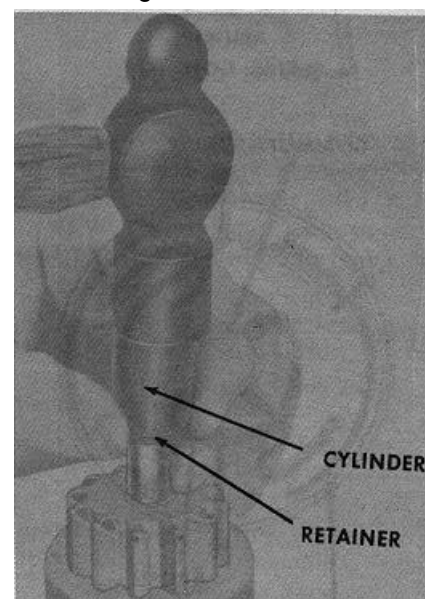

Figure 10-Rerhoving retainer from snap ring.
6. Slide a standard half-inch pipe coupling or other metal cylinder of suitable size (an old pinion of suitable size can be used if available) onto shaft so end of coupling or cylinder butts against edge of retainer. Tap end of coupling with hammer, driving retainer towards armature and off snap ring (Fig. 10).